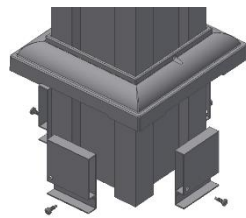
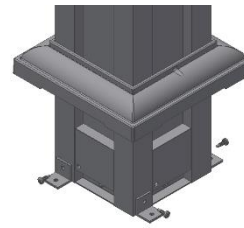

Fig. 3
Fig. 4
Step 5 When installing square recessed column attach filler blocks with screws provided to top and bottom of column (See Fig.3) before attaching angle brackets to corners of square recessed column. (See Fig. 4)